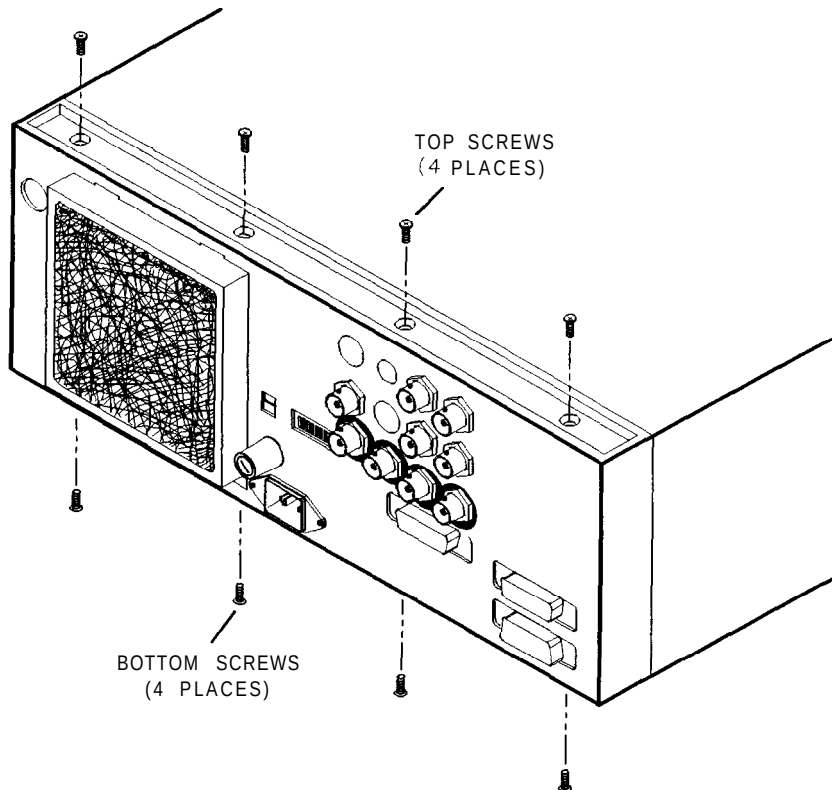

Figure 7-11. Rear Panel Removal
1. Remove the four screws on the top back edge. Refer to Figure 7-11.